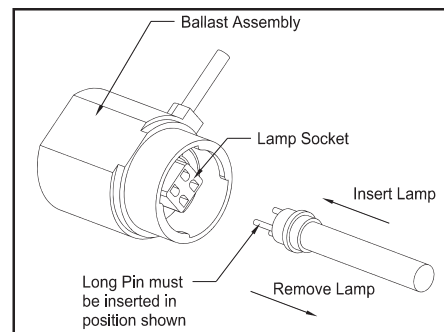

Figure 6
9. Do not handle the lamp with bare hands. Oils on your hands tend to reduce lamp intensity. Install lamp into ballast. (See Figure 6)
3. Remove the lamp from the lamp socket. (See Figure 6)